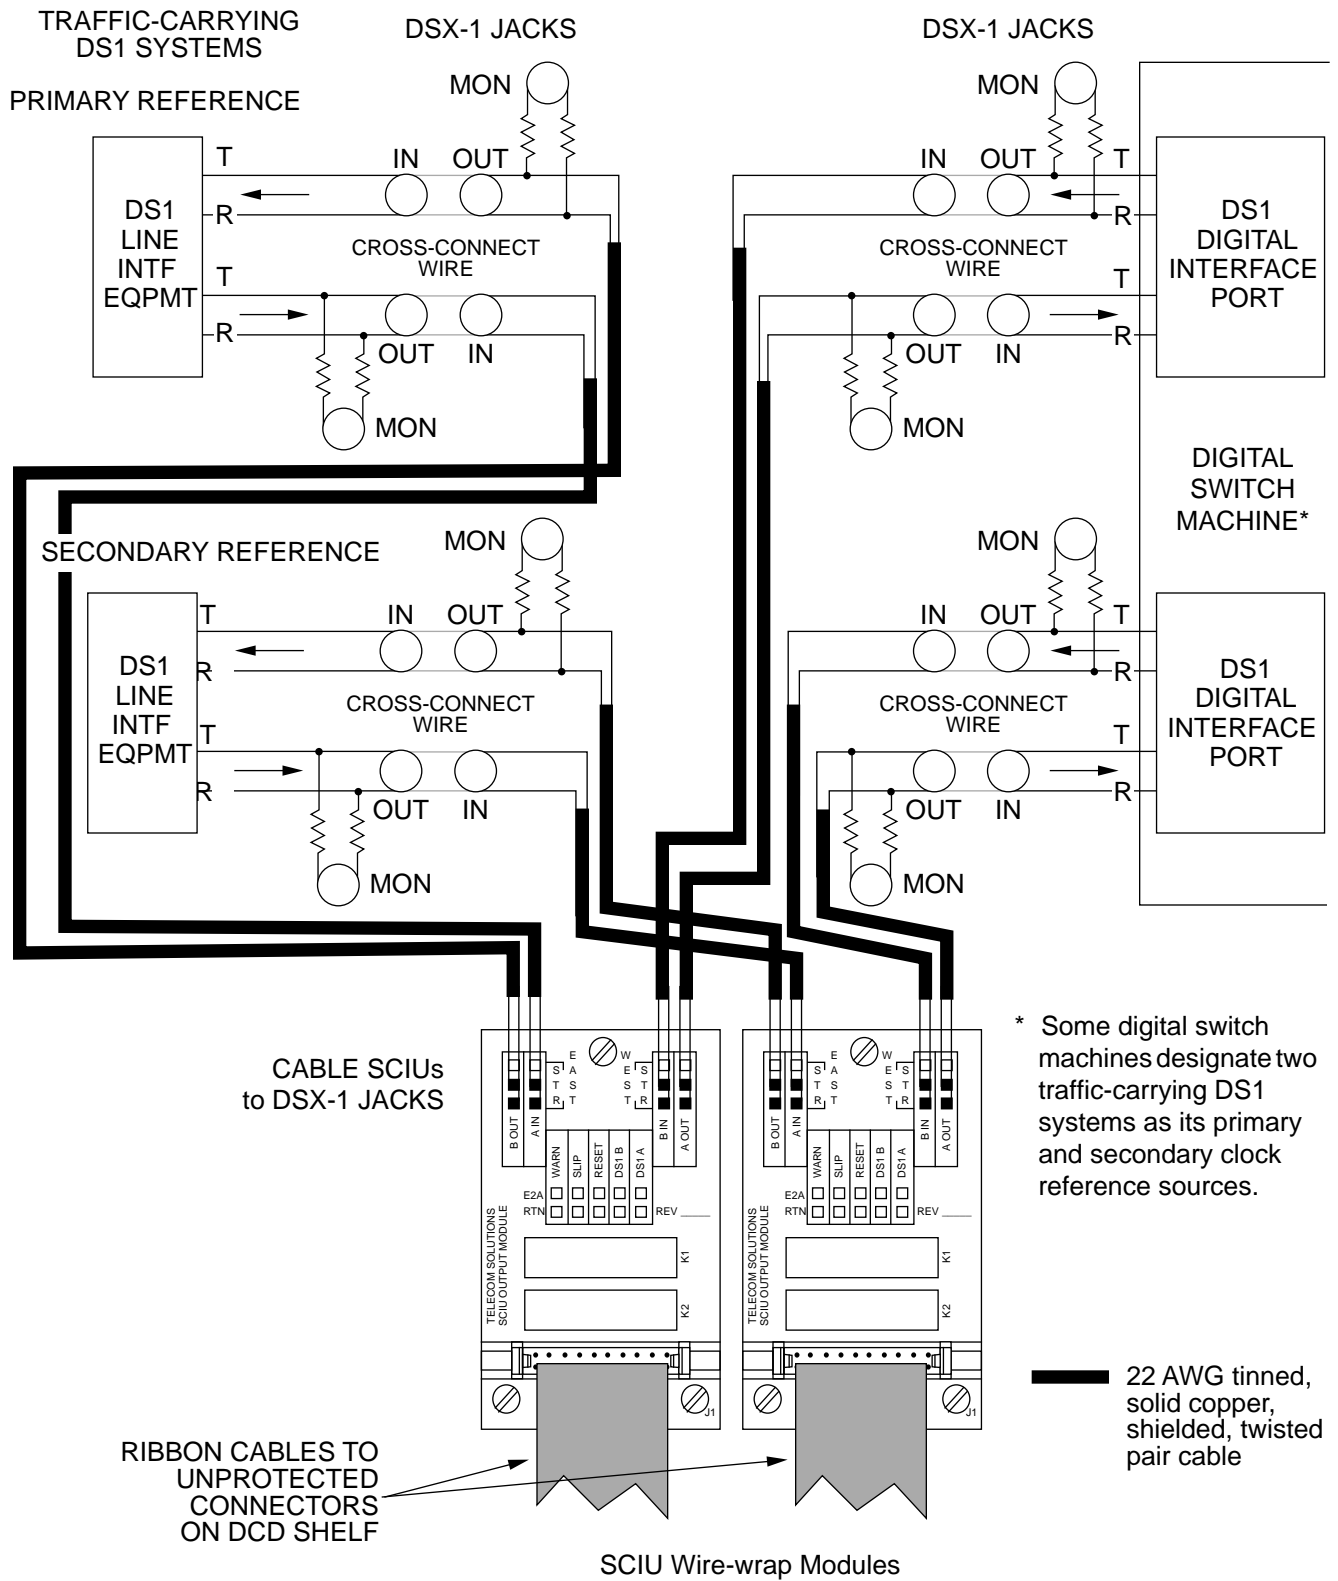

Figure 18. SCIU to DSX Jack Cabling
2.40 The SCIU cards' A and B direction output signals are nominally 3.0 volts base-to-peak (b-p) amplitude (0 dB DSX level) and are designed for connection into the DS1 bitstream at a standard digital signal level cross-connect point, such as a digital signal cross-connect (DSX). See Figure 18 for typical connection of the SCIU at a standard digital signal level cross-connect point.
2.42 The SCIU wire-wrap module or panel terminals are cabled to the digital signal cross-connect test access jack sets, such as DSX-1 jacks as follows (see Figure 18):